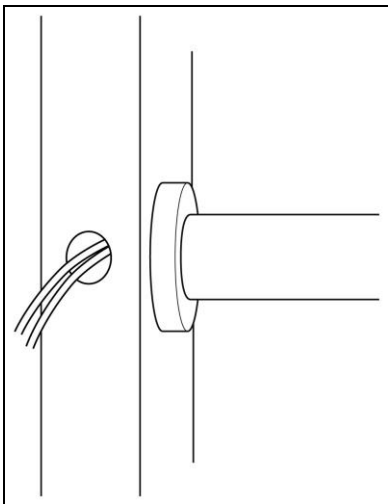

Fig 6 (shown without wall cladding)
5. Clamp Strata Heiko Petite in place with grub screw facing down, Fig 6